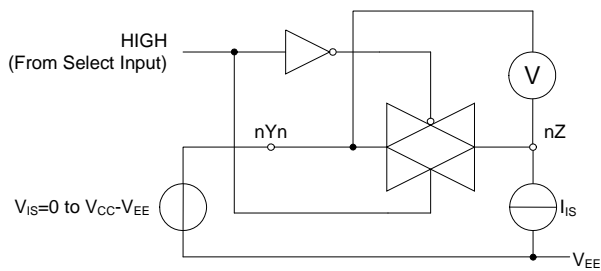

Figure 7. Test Circuit for Measuring  $R_{ON}$
**Dual 4-channel Analog Multiplexer/Demultiplexer****AZ4052****Electrical Characteristics (Continued)****Resistance  $R_{ON}$**  $V_{IS}$  is the input voltage at pins nYn or nZ, which is assigned as an input ((note 4) see figure 7)